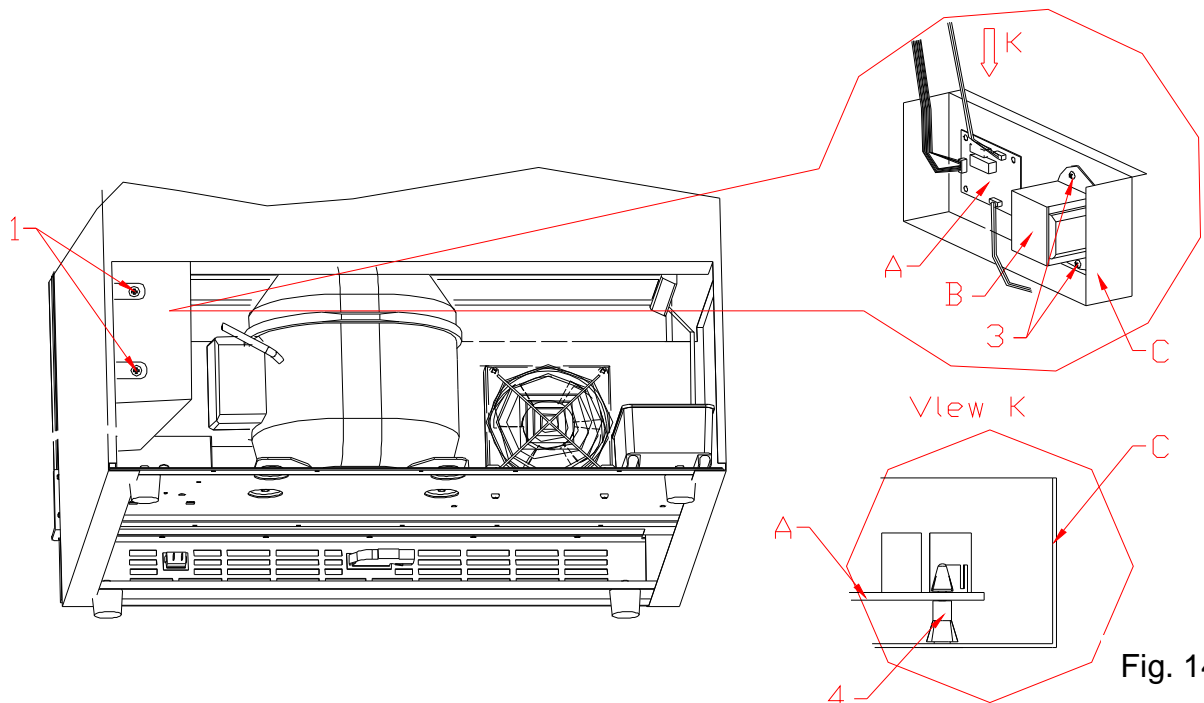

Fig. 14
- 1 >. Remove the 2 screws (1); ( Fig.14)
- 2 >. Remove the electrical box; ( Fig.14)
- 3>. Unplug all the connectors, then press the head of each of the four plastic screws (4), move up-ward the power PCB (A), then replace a new one. ( Fig.14) (View K)
- 5>. Remove the 2 screws (B) and transformer, then replace a new transformer.( Fig.14)